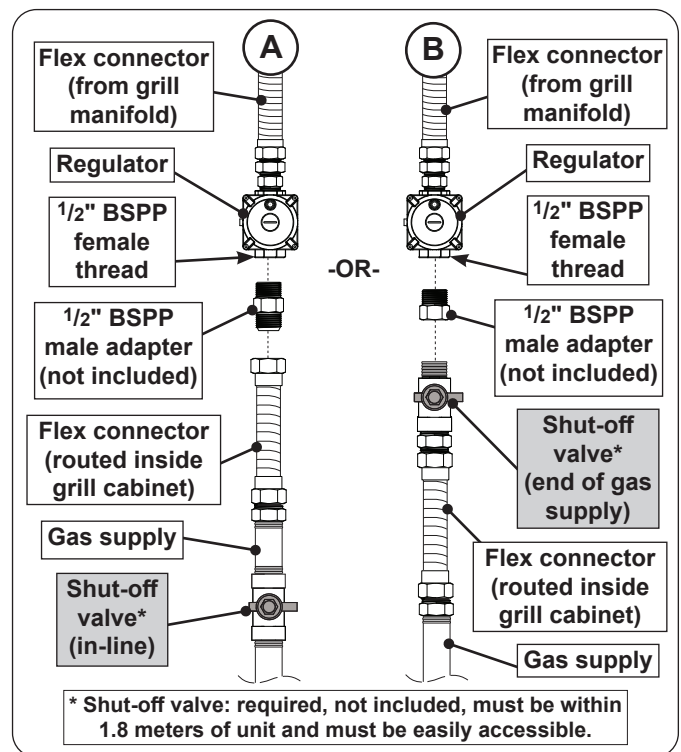

Fig. 20-2 Connecting to a gas line
- Install the gas supply to the regulator (1/2" BSPP female) using a 1/2" BSPP adapter (not included) (see Fig. 20-2, A). Tighten securely.
- Connect the shut-off valve (1/2" BSPP male) to the regulator (1/2" BSPP female) (see Fig. 20-2, B). Tighten securely.